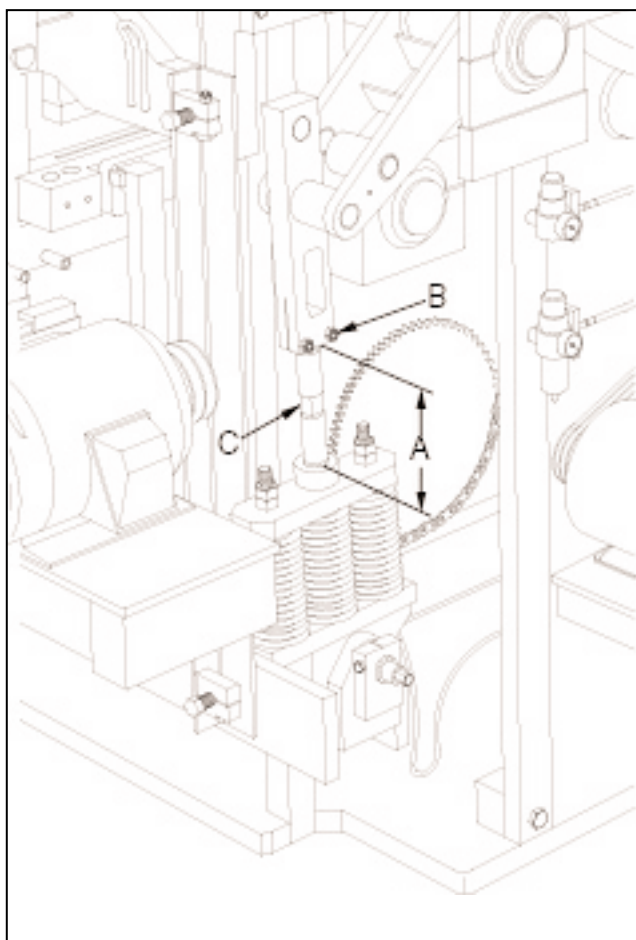

Figure 4.52 ADJUSTING PALLET RECEIVER LINKS
- 4.4.13 Adjust the pallet receiver link assemblies to a dimension of **10 1/16" [256mm]** between the upper and lower link assemblies (see figure 4.52) (A). To do so, loosen the two bolts (B) and turn up or turn down (C) with a wrench.